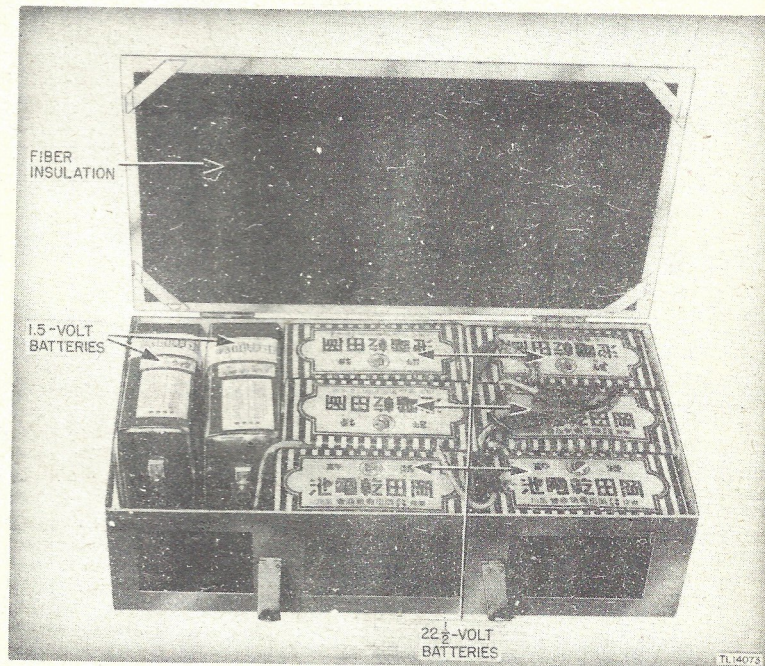

Figure 9. Japanese battery pack in metal case, cover open.
(2) A battery pack is normally required for operation of the transceiver receiving circuit. The Japanese battery pack shown in figure 9 is made up of six 22-1/2-volt batteries in series for the 135-volt supply and two 1.5-volt series-connected batteries for the 3-volt supply. The batteries are encased in